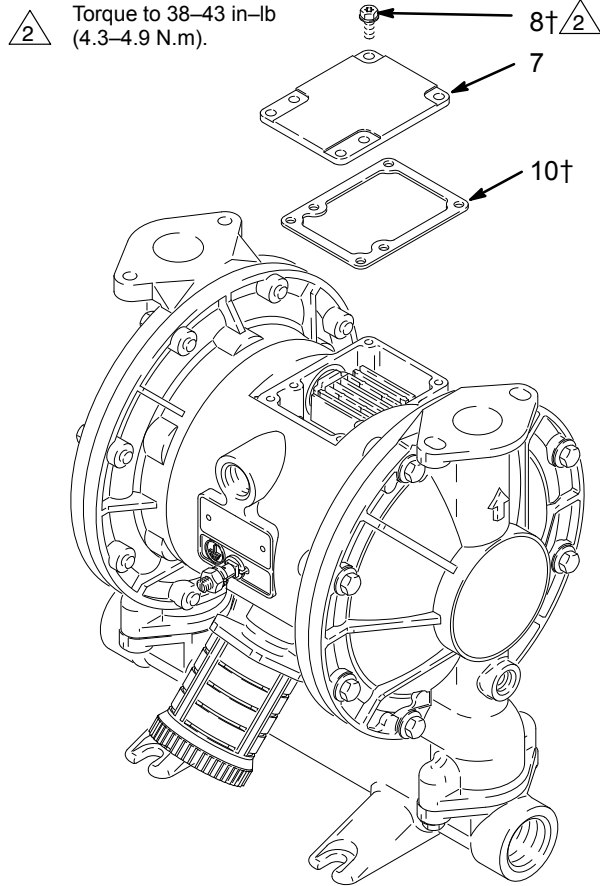

Fig. 8
2. With a torx screwdriver or 8 mm (5/16") socket wrench, remove the six screws (8), air valve cover (7), and gasket (10). See Fig. 8.
10. Align the valve gasket (10†) and cover (7) with the six holes in the center housing (5). Secure with six screws (8†), using a torx screwdriver or 8 mm (5/16") socket wrench. Torque to 38–43 in-lb (4.3–4.9 N.m). See Fig. 8.